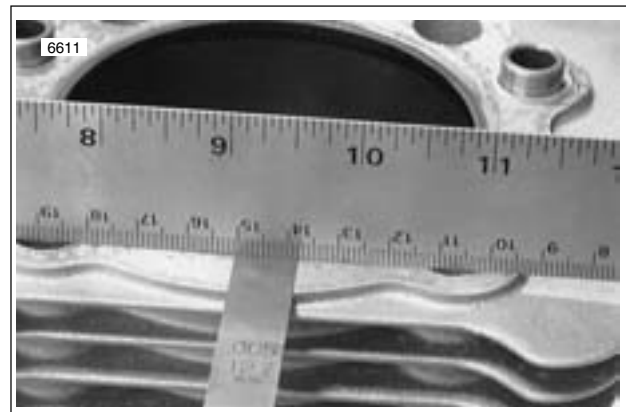

Figure 3-69. Checking Gasket Surfaces
1. See Figure 3-69. Check cylinder head gasket surface for flatness.